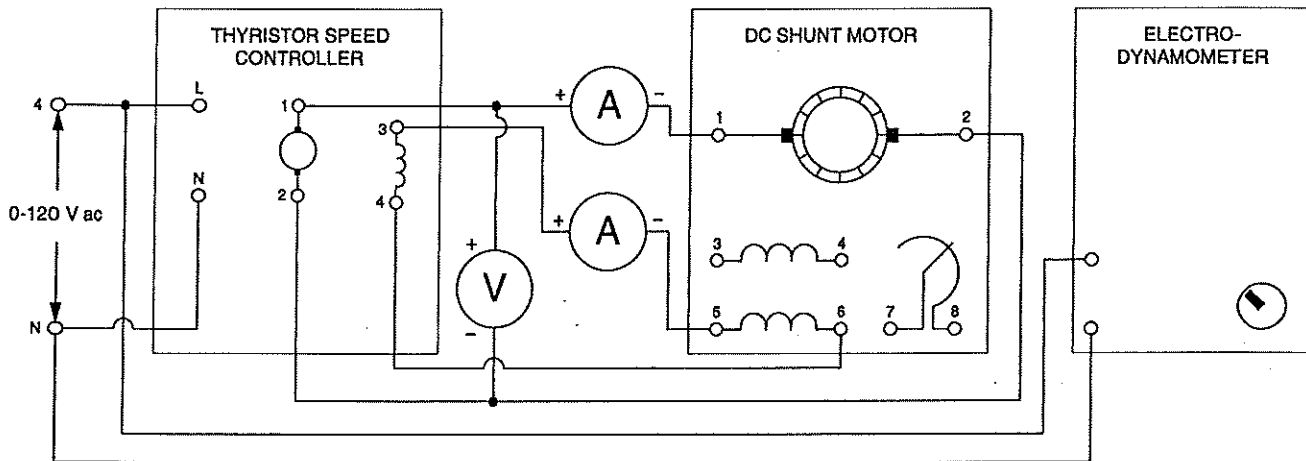

Figure 12-1.
- 3. Connect the circuit shown in Figure 12-1.